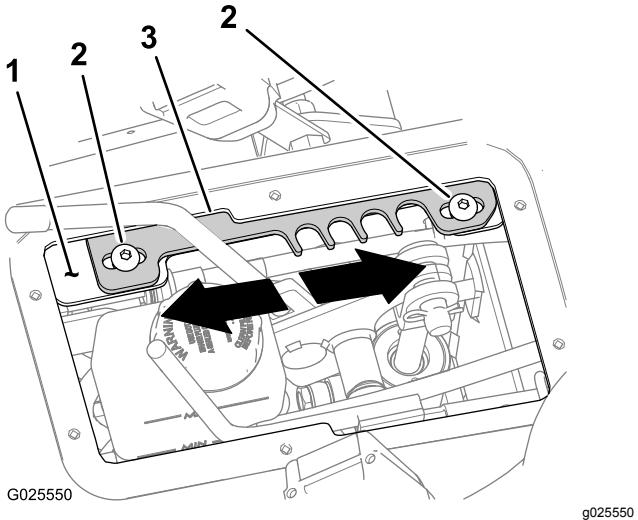

Figure 62
4. Move the speed-range lever to the **T** (TRANSPORT) position (Figure 62).
5. Loosen the 2 hex-socket screws (5/16 x 3/4 inch) that secure the detent plate to the lever-support bracket (Figure 62).
- Move the detent plate **forward** to increase the maximum ground speed limit (Figure 62).
- Move the detent plate **rearward** to decrease the maximum ground speed limit (Figure 62).